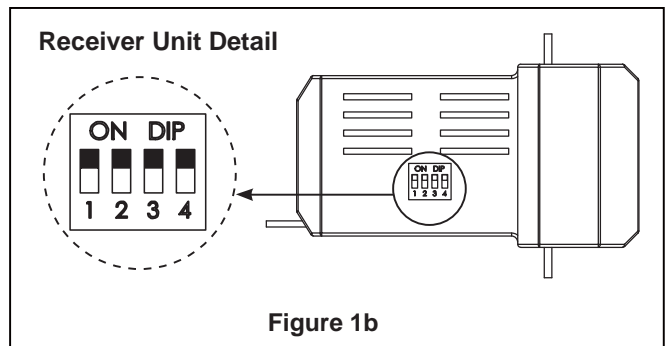

Figure 1b
- 3. Receiver:** Slide code switches to the same positions as set on your transmitter (Figure 1b).